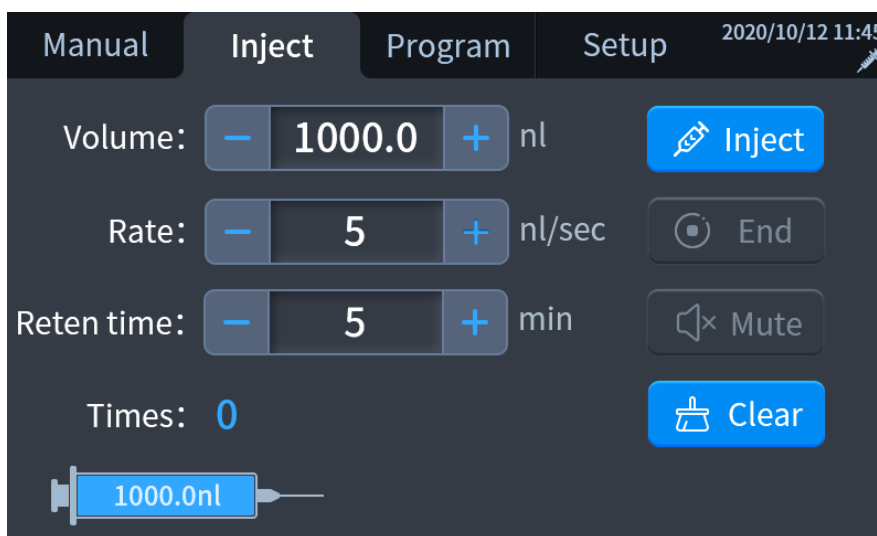

Figure 5-8
- 9) Click to enter the [Inject] interface as shown in Figure 5-8, set the injection volume, injection rate and retention time, and click  Inject to inject the reagent in the target area.